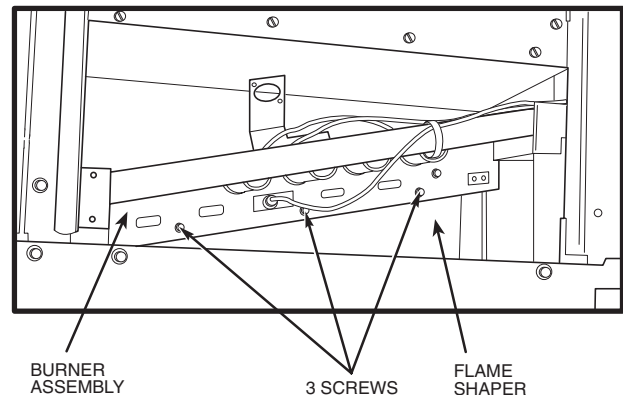

Fig. 4 — Removal of Burner Assembly from Flame Shaper
12. Remove 3 screws securing the burner assembly to the flame shaper. See Fig. 4. Save screws for re-installation of burner assembly.